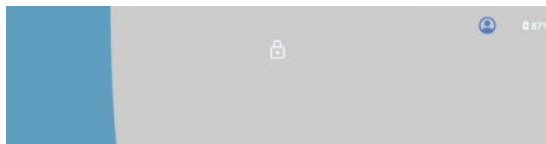

Figure 6. Lock Screen
6. Once the password is changed successfully, the user will be sent to the lock screen, (Figure 6).